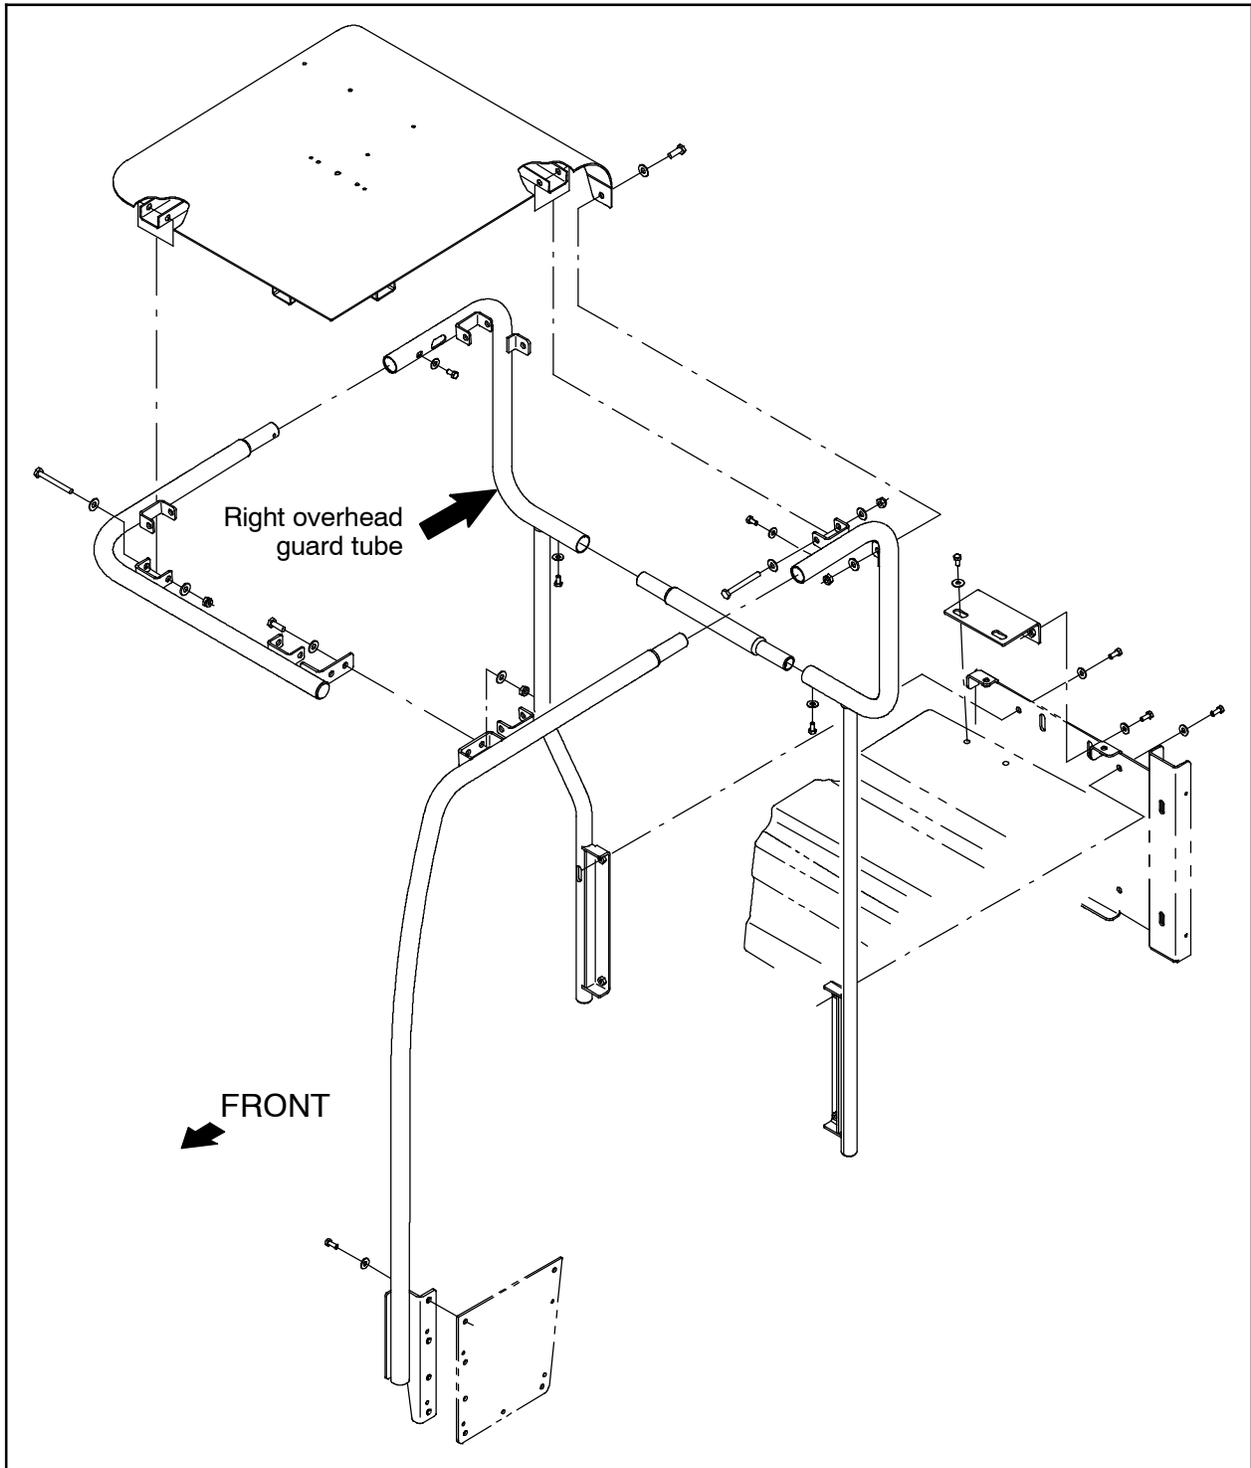
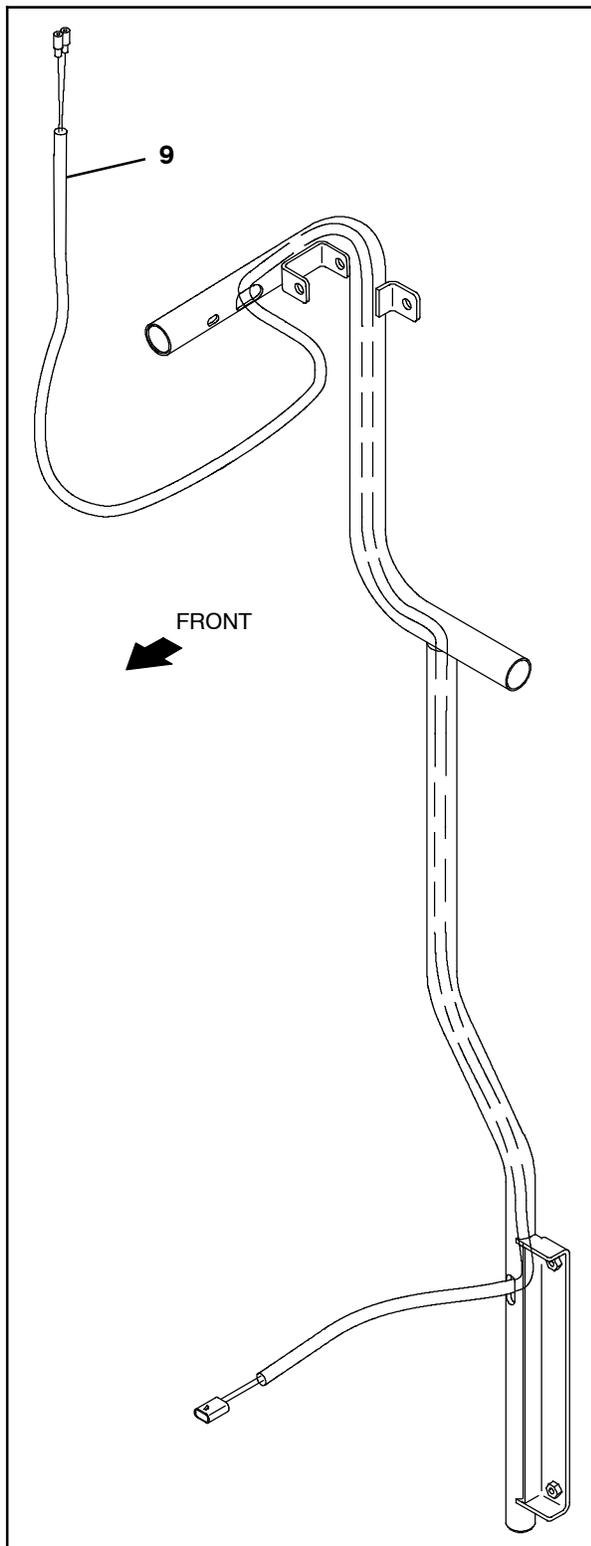

FIG. 3
FIG. 4
4. Disassemble enough of the overhead guard to route the flashing light harness (9) through the right overhead guard tube and down to where it is routed out from the tube and to the main wire harness. Set all disassembled parts and hardware aside. (Fig. 3 / Fig. 4)
- Route the overhead guard harness (9) through the right overhead guard tube. (Fig. 4)